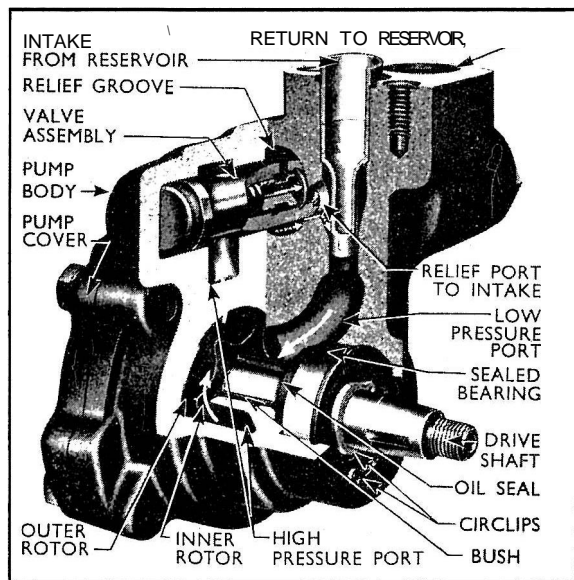

Fig. 2
2.) As the pump rotors turn the spaces formed between the rotor lobes increase and then decrease in volume with each revolution, propelling oil from the intake side of the pump to the outlet. (See solid arrows, Fig. 2.)
When the engine is idling the pump is operating at its minimum output which is, however, sufficient to provide power assistance. To limit pump output at higher engine speeds, a spool type spring-loaded flow control valve is provided in the pump body. The valve which is hollow and closed at one end has two metering orifices drilled through its walls. A pressure relief valve, which is also spring-loaded, is contained inside the flow control valve and is retained in position by means of a circlip. The flow control and pressure relief valve assembly is retained in the pump body by the oil outlet adaptor. (See Figs. 2 and 3.)
Oil from the pressure side of the pump flows into the chamber containing the flow control valve. A flat ground on the land at the closed end of the valve allows the oil to flow behind it. The oil also flows to the inside of the valve through the two metering orifices and from here, through the pressure relief valve and the pump outlet to the power cylinder assembly. (See Figs. 2 and 3.) When the pump speed is increased, due to an increase in engine speed, the pump output tends to exceed 2.75 Imp, galls. per minute (12.5 litres per minute). This creates a pressure differential between the outside and inside of the flow control valve, due to the restricted flow through the metering orifices, and the pressure at the closed end of the flow control valve (via the flat) then exceeds the pressure on the spring-loaded end so that the entire valve assembly moves and compresses the flow control valve spring. This action uncovers passages in the pump body which allow excess oil to flow back to the reservoir and to the intake side of the pump. (See dotted arrows, Fig. 2.) Thus, the pump output is limited to 2.75 Imp, galls. per minute (12.5 litres per minute) regardless of pump speed.
movement uncovers ports in the flow control valve and allows sufficient oil to return to the reservoir and to the intake side of the pump to prevent further pressure build-up. (See Figs. 2 and 3.)